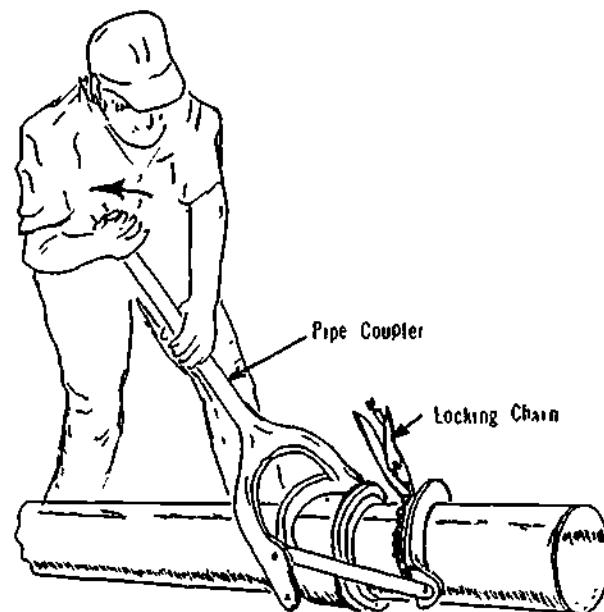

Figure 4-22. Assembly of Compression Joint
1. A locking chain and pipe coupler, shown in Figure 4-22, are the only tools required to complete the assembly of a compression joint.
- e) Fasten the locking chain around the spigot to provide an anchor for the pipe coupler as illustrated in Figure 4-22.
- f) Mate the pipe spigot or fitting spigot to the hub and attach the pipe coupler as shown in Figure 4-22.
- a) Attach the locking chain further from the hub than is indicated in Figure 4-22.